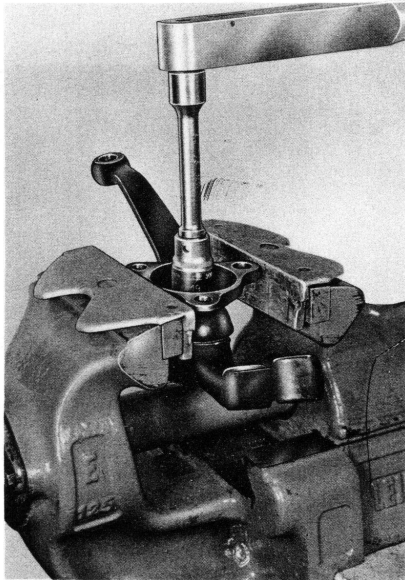

Fig. 12
4. Install ball stud castellated nut and torque to 4,5 mkp (32,5 lb-ft). If the cotter pin orifice appears above the top of the castellated nut, place a spacer under the nut (see Fig. 12).